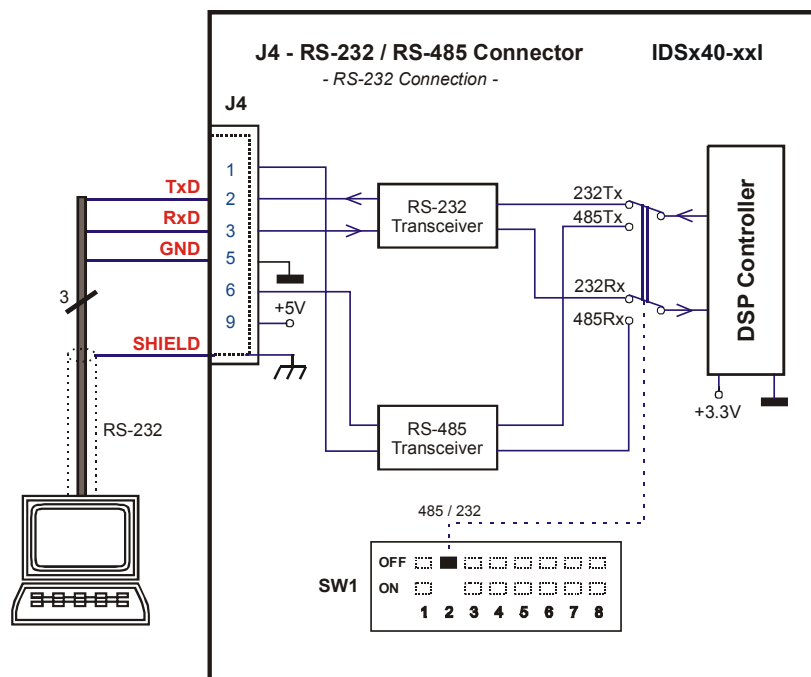

Figure A.1. RS-232 serial connections for IDSx40-5EI with J4
2. Connect an RS232 serial cable between your PC and J4 connector of the IDSx40-5EI (9-pin DB9). Use a 9-wire standard serial cable non-inverting (one-to-one) or do connections as in Figure A.1.